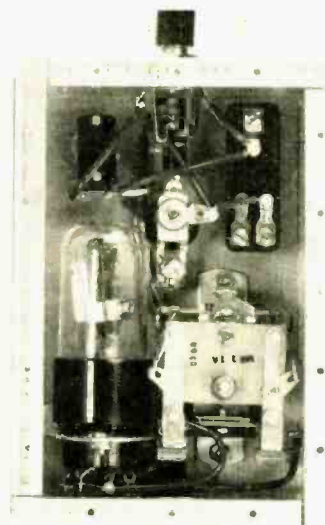

Fig. 6. Interior view of main control chassis. Amperite time-delay unit is the tube-like device at lower left.
Internal construction of the main control is shown in Fig. 6. The bracket for mounting the time-delay-unit socket is made from part of a SeeZak rail; the pilot light is mounted in a Dialco #705 socket, with the web bent at right angles and soldered to a threaded spacer. The bulb passes through a grommet in the top plate, and a screw through this top plate holds the socket in place. No special care, other than good workmanship, is needed in assembly.
Paper capacitors are readily secured from radio parts houses. In some cases, paper capacitors are still available from surplus, at reduced prices. It is possible to use electrolytic capacitors, back-to-back¹⁰, as shown in Fig. 6. This is not the best idea, but they work satisfactorily at least for a time. However, a paper capacitor must be added in parallel¹¹ as shown in Fig. 6, to give good high tone response, which is not good with electrolytics alone. If *C₆* is the value of each of the two electrolytics, and *C₇* that of the parallel paper capacitor, the combination has
Since the paper capacitor is the most expensive, usually C_7 is the starting point, and the required C_6 calculated. For example, if C_7 is 2 μf , and 40 μf is needed. Eq. (3) shows that each C_6 is 76 μf (two are required, see Fig. 6). Exact capacitor values are not required, and 80 μf will be close enough. Furthermore, the actual value of electrolytic capacitors is likely to be as much as 20 per cent off from the rated value, and it would be best practice to measure the capacitance on a bridge. The working voltage rating of the capacitors should be 25 to 50 volts d.c. for 20-watt amplifiers. Any paper capacitor will have more than this rating, but electrolytics are made with lower d-c ratings.